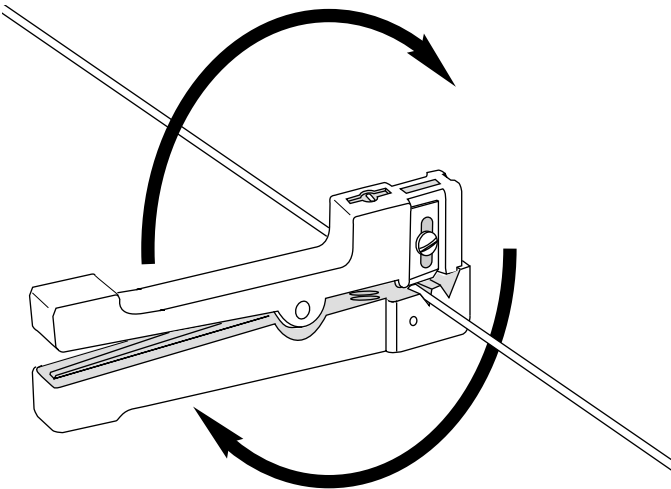

Figure 4
- Use your other hand to rotate the tool around the buffer tube two to three complete turns to score it (Figure 4). Remove the tool from the buffer tube.